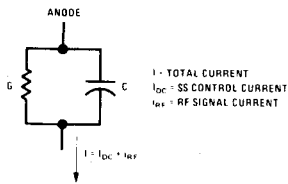

FIGURE 2. Circuit Model for PIN Switch
Equation (1) implies a circuit model shown in Figure 2. Under steady conditions  $\frac{dQ}{dt} = 0$ , hence: